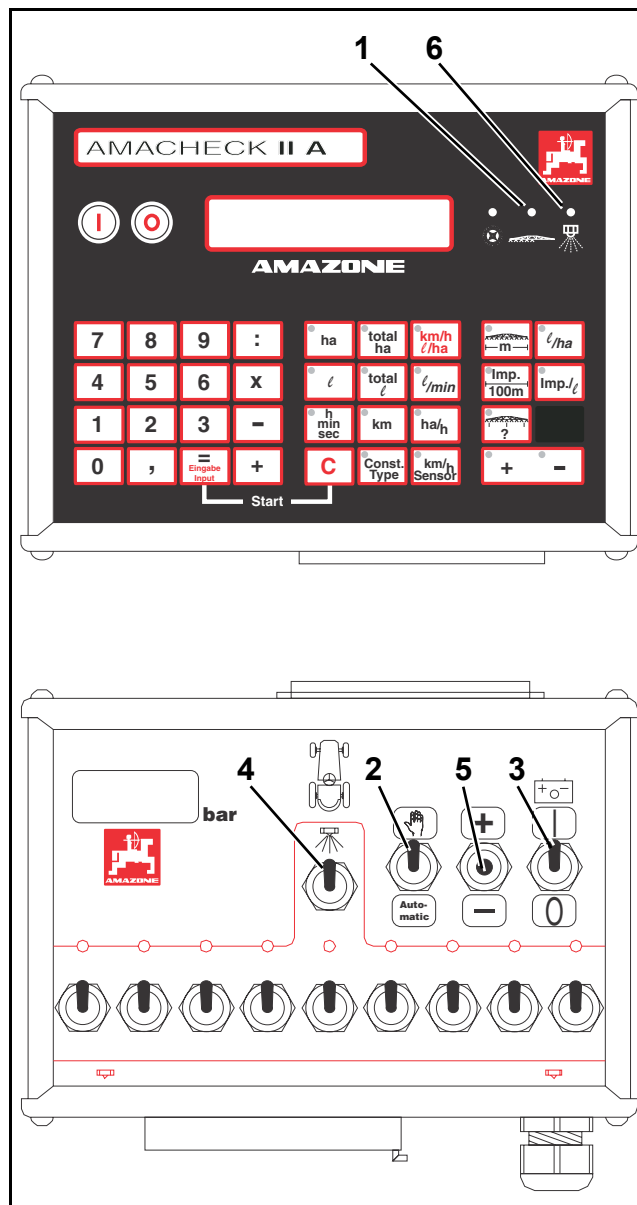

Fig. 39
- By the  $\pm$  key (Fig. 39/5) set the spray pressure for the desired spray rate.
• When deviations are noticed between the displayed spray rate and the nominated spray rate change the spray pressure accordingly by the  $\pm$  key (Fig. 39/5) of the switch box until the displayed spray rate and the nominated rate coincide.
• When the boom feed supply is switched on the diode above the nozzle symbol (Fig. 39/6) lights up, e. g. the sprayer is ready to operate.